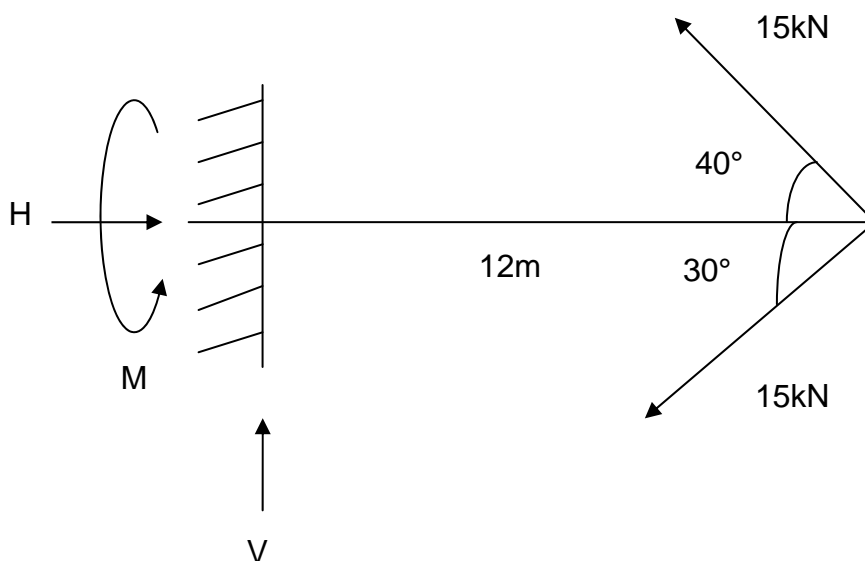

Figure 1(a)/Rajah 1(a)
1. (a) Determine the reactions for the cantilever over the end on which runs a cable carrying a 15 kN tensile force as shown in **Figure 1(a)**.